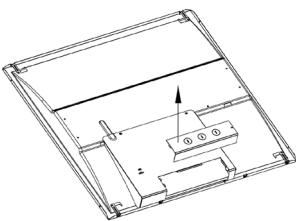

Fig. 1
1. Unscrew the driver cover (Fig. 1)